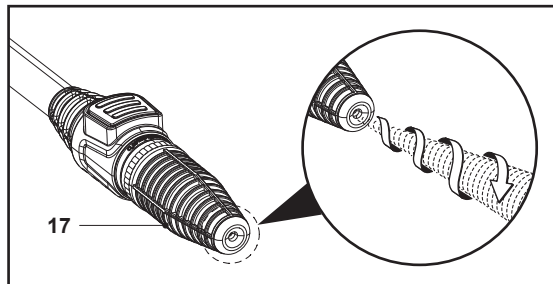

Fig. 10
The turbo nozzle (17) rotates as it sprays high-pressure jets of water for efficient washing (Fig. 10).